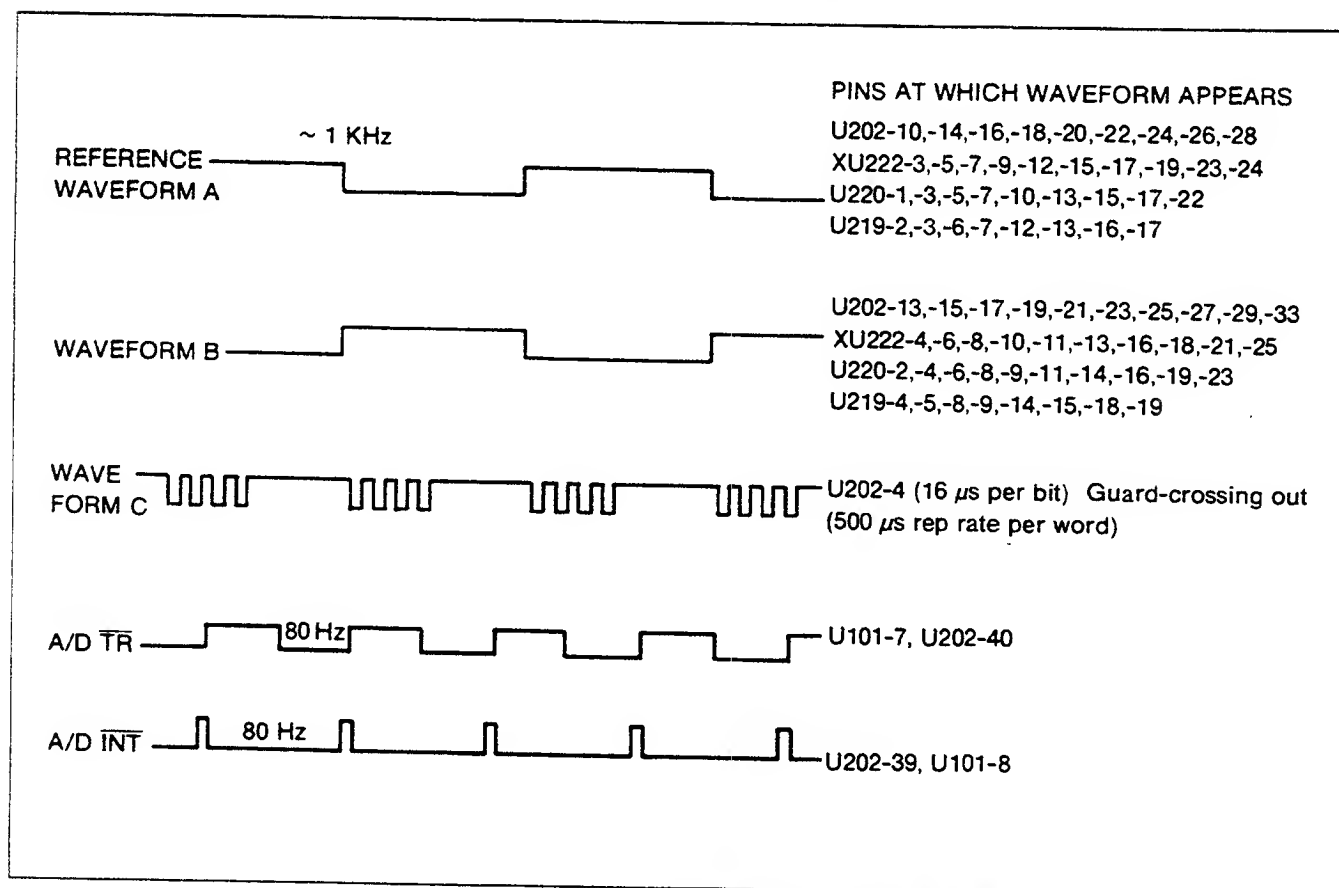

Figure 6-10. Waveforms for In-Guard Troubleshooting Mode
5. Guard-crossing test pattern (U202-4): Waveform C (see Figure 6-10).
7. Output test patterns (see Waveforms A and B in Figure 6-10): 1 kHz square wave on indicated pins, 50% duty cycle, low 0V, high 3.8V nominal. (The waveforms are interrupted every 1.5 sec for 0.2 sec due to interrupts from the watchdog timer.) To observe these patterns, remove U220, attach a logic clip to address latch U219 and sync on U219-3 for Reference Waveform A on channel 1 of a dual trace scope. Compare channel 1 with waveforms at U202-10, -14, -16, -18, -20, -22, -24, -26, -28. These should all be the same as reference Waveform A (including phase). Then compare channel 1 with waveforms at U202-13, -15, -17, -19, -21, -23, -25, -27. These should be the same as Waveform B, which is simply the opposite phase of Waveform A.
Verify that U219-2, -6, -7, -12, -13, -16, -17 are the same as Waveform A (see Figure 6-10) on U219-3. Verify that U219-4, -5, -8, -9, -14, -15, -18, -19 are the same as Waveform B. The waveforms should be interrupted every 1.5 sec for 0.2 sec due to interrupts from the watchdog timer.
Sync on U219-3. Verify that XU222-3, -5, -9, -12, -15, -17, -19, -23, -24 are the same as Waveform A (see Figure 6-10) on U219-3. Verify that XU222-4, -6, -8, -10, -11,